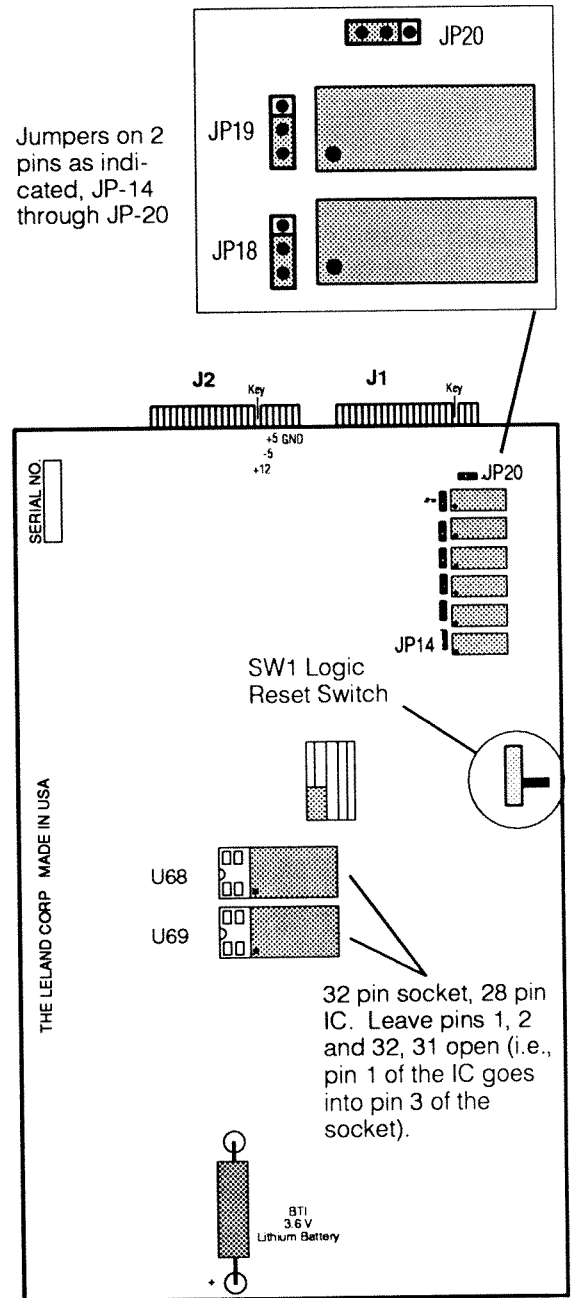

Fig. 2
The microprocessor in this machine operates most efficiently when the power supply is providing a steady +5.00 VDC to 5.05 VDC. When checking the DC power, always put your leads across the +5 VDC test points on the main circuit board (**NOT** at the power supply, DC input connector or any IC-- see Fig. 2, Page 11) and be sure that the +5 volt supply is between +5.00 VDC and +5.05 VDC, and that the -5 and +12 Volt supplies are within $\pm 1\%$ of nominal value. Also, be sure that there is less than .005 volts AC riding on the +5 volt, -5 volt and +12 volt lines. If you do find AC on the DC line, inspect the filter capacitor or the rectifier on the power supply. Low voltage and AC on the DC lines are the main causes of the following problems:
- Press SW1 on the game circuit board (logic reset, see Fig. 2).